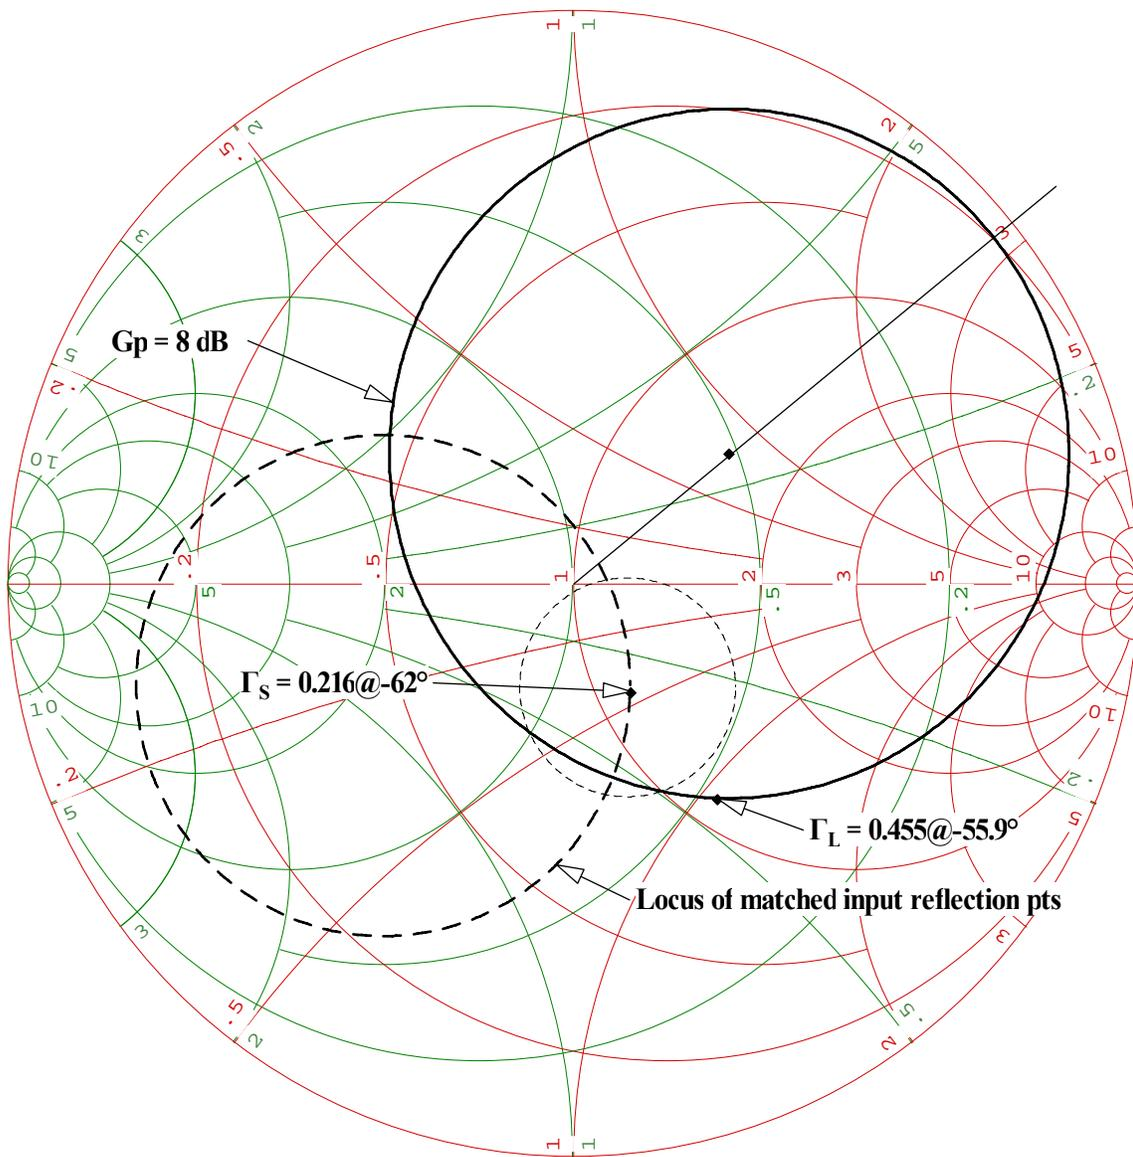

Figure 3.4a
4. Once we select a Load Reflection coefficient, we can go to the **Source Refl. Calc...** under the **Functions** menu to calculate the Source Reflection coefficient or select the Load Reflection coefficient with the mouse crosshair and select the Source Reflection Calc with the right most button on the mouse. The plot for this procedure is shown in Figure 3.4a.